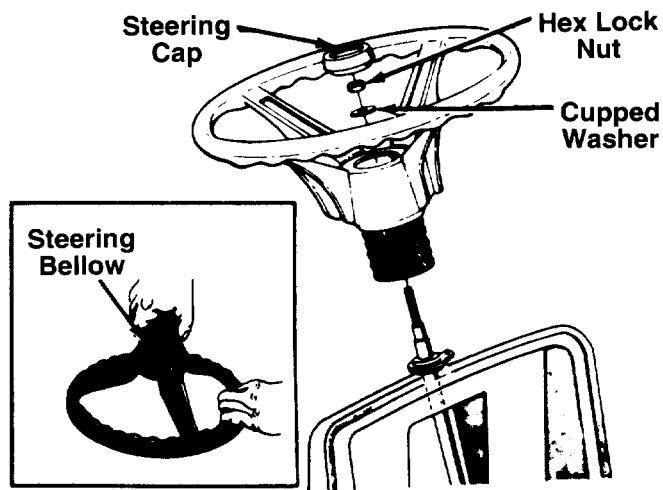

FIGURE 6.
2. Attach one end of steering bellow to the steering wheel as shown in figure 6, inset.
5. Place the washer with the cupped side down over the steering shaft. Secure with hex lock nut. See figure 6.